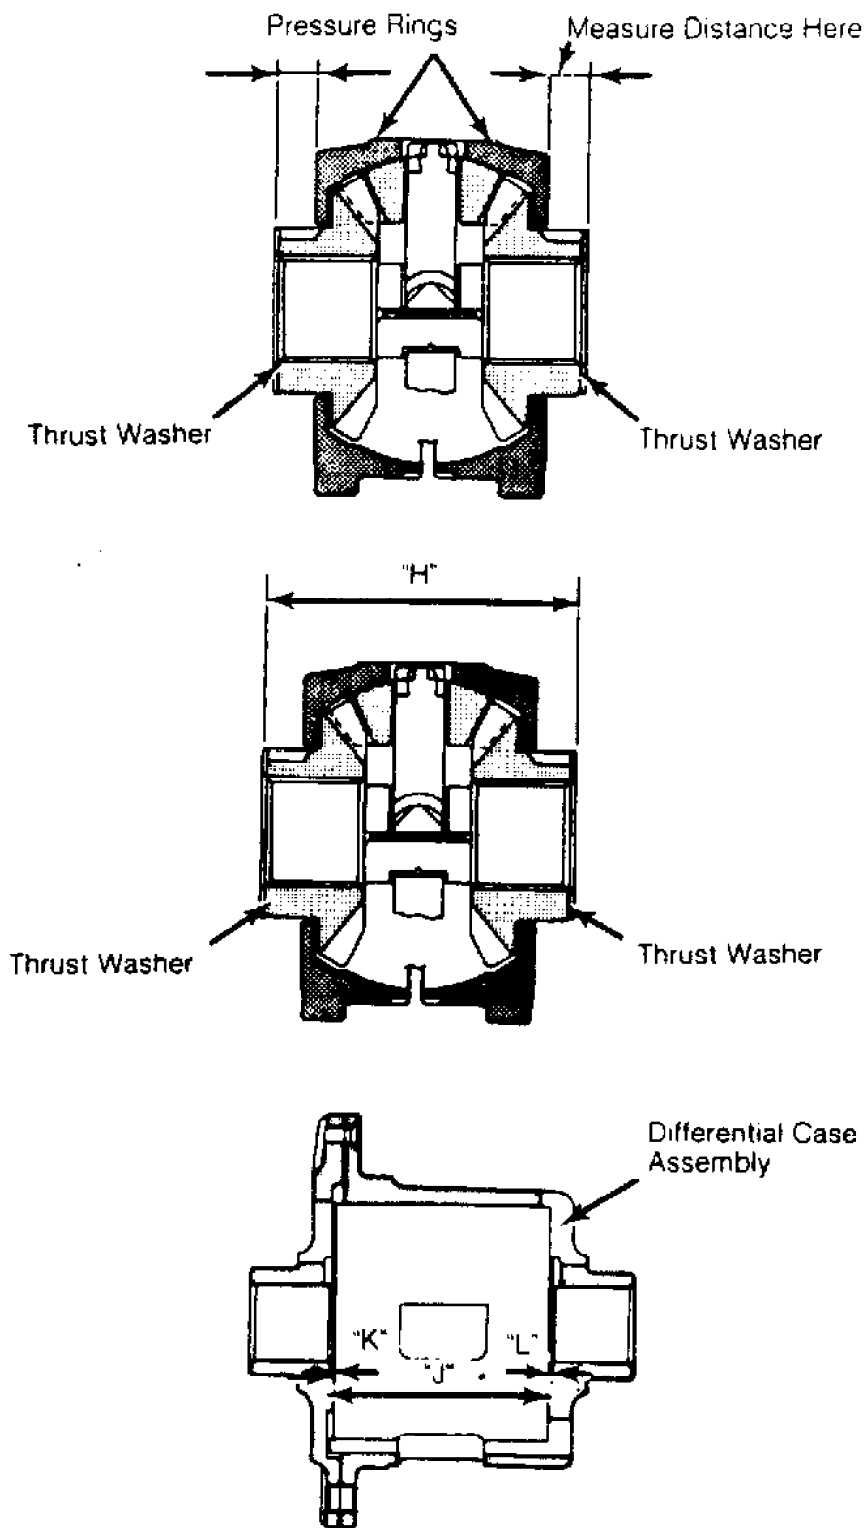

Fig. 8: Measuring Thrust Washer Clearance
5) Remove spring plates, spring discs, friction plates and friction disc from pressure rings. Mark components for location. Install thrust washers on each end of pressure rings. See Fig. 8.
7) Once correct thrust washers are determined, install thrust washers on pressure rings. Squeeze pressure rings together and measure width from end of thrust washer to remaining thrust washer. This is dimension "H". See Fig. 8.
8) Determine distance between thrust washer surfaces when differential case is assembled. This is dimension "I" ("I"="J"+"K"+"L"). See Fig. 8. Dimension "J" is the same as dimension "D" in step 4).
9) Subtract dimension "H" from dimension "I". See Fig. 8.